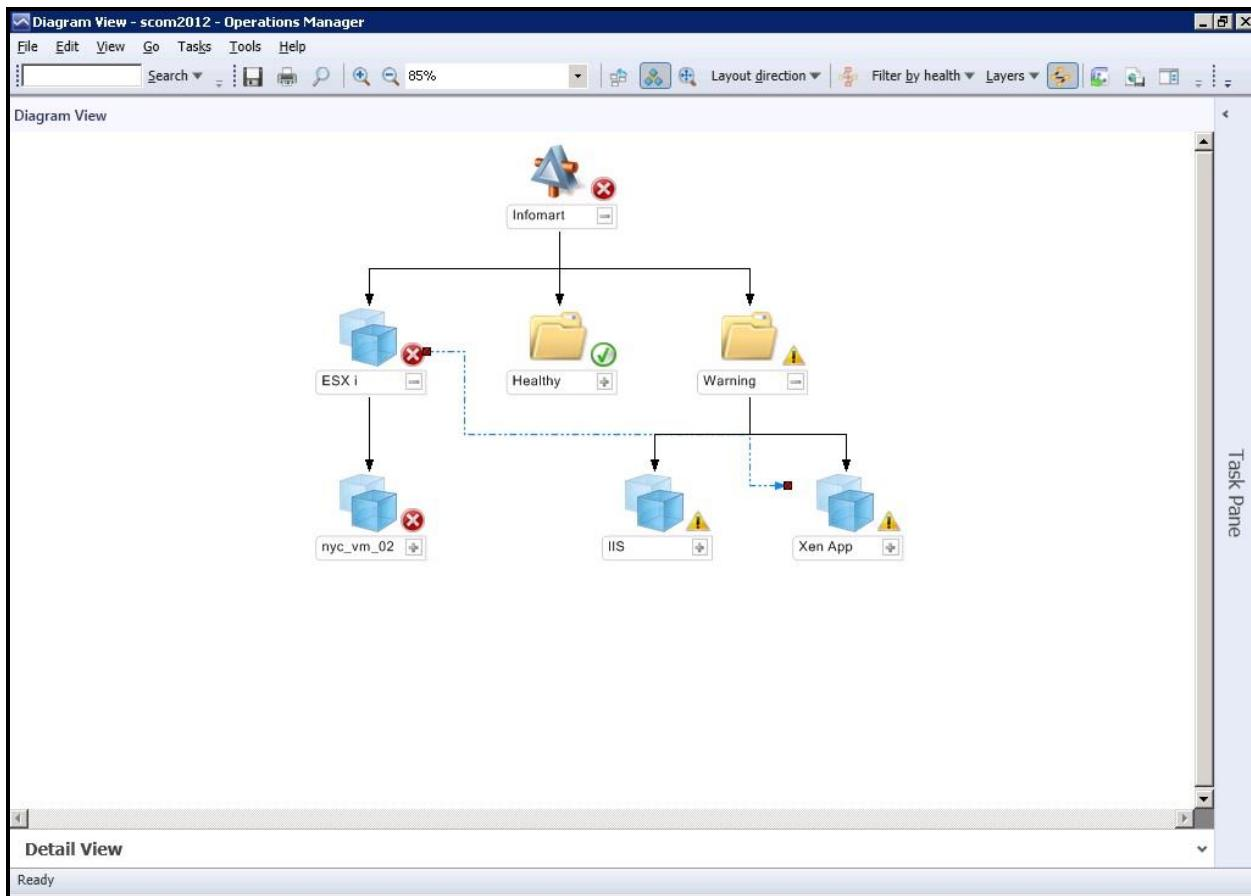

Figure 3.41: End-to-end correlation using SCOM
- Now, let us drill down the **Infomart** in the topology map. This reveals that the **IIS** web server component and the **XenApp** server component in our example are currently in the **Warning** state, indicating that **Major** problems have been noticed in these two components. Also, the 'dotted arrow' in blue connecting the **ESXi** component and the **XenApp** component (see Figure 3.41) reveals that the XenApp server depends upon the ESXi server for its proper functioning; this implies that the **Critical** issue with the **ESXi** component impacted the performance of the XenApp server that was running on one of the VMs of the ESXi server, thus creating a **Major** problem with the XenApp server. This is how SCOM indicates cause-effect equations and helps you isolate the source of issues with your distributed applications –i.e., business services.